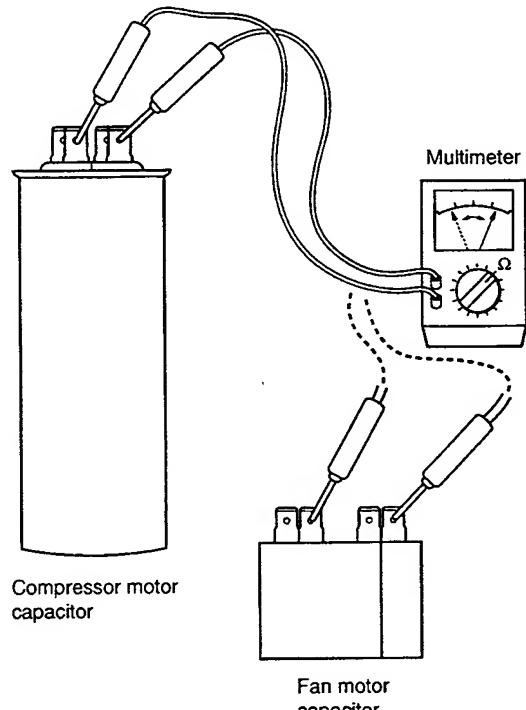

Fig. 11
⑤ **Motor capacitor .....** **Both in indoor and outdoor unit**
- Remove the lead wires from the capacitor terminals, and then place a probe on the capacitor terminals as shown in **Fig. 11**. Observe the deflection of the pointer, setting the resistance measuring range of the multimeter to the maximum value.